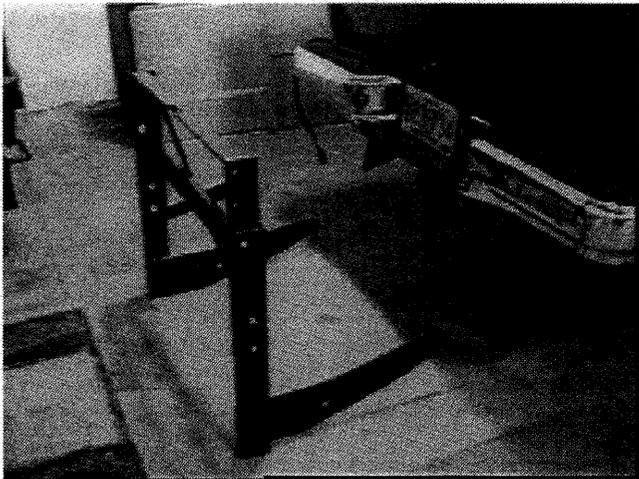

Figure 7
1. Position secondary frame behind truck and insert mount bars of secondary frame into subframe pockets. See Figure 7.